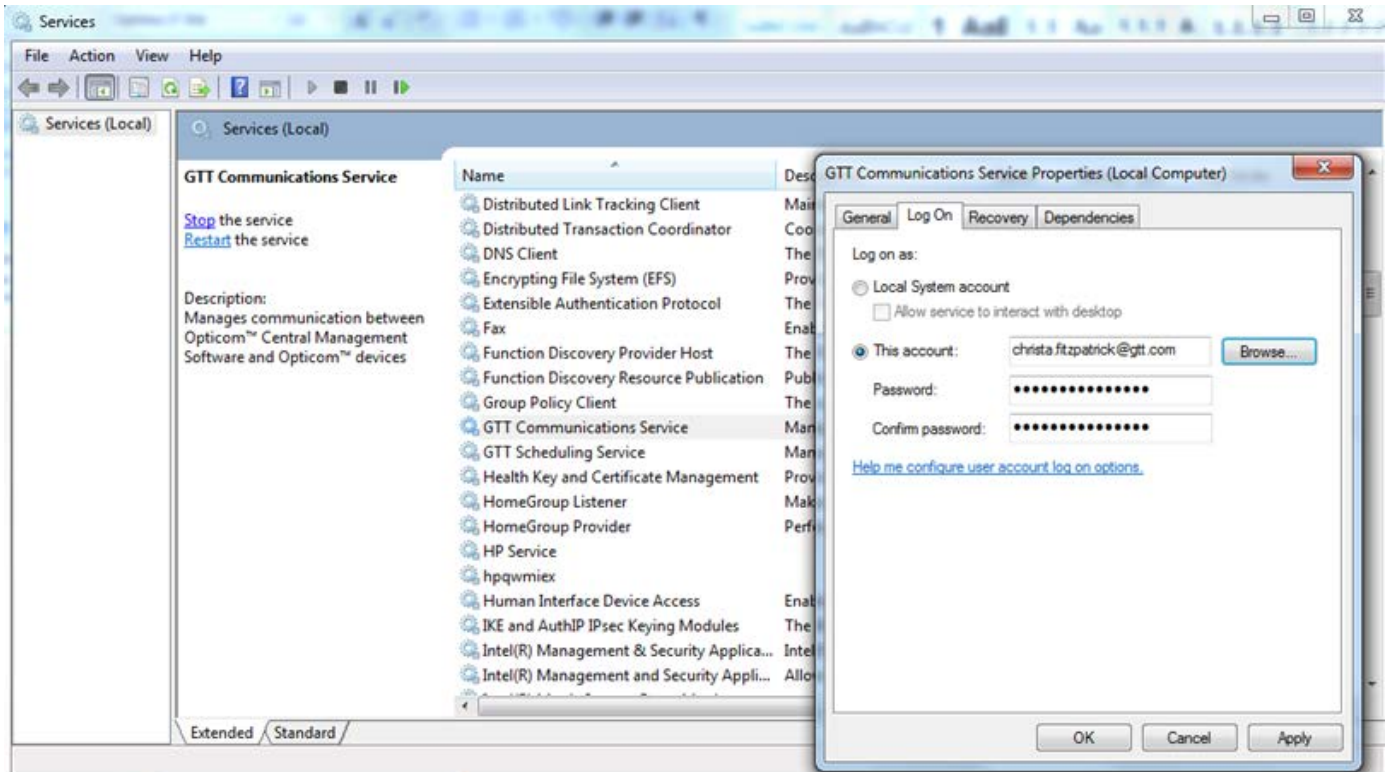

Figure 11-1
3. Using the "Services" utility under Administrative Tools, stop the GTT Scheduling Service, double click on the service to bring up its properties screen then configure the selected account's User ID and password in the "Log On" tab, then restart the service. Note that it will be necessary to update the password using the Services utility if the password expires. See Figure 11-1.